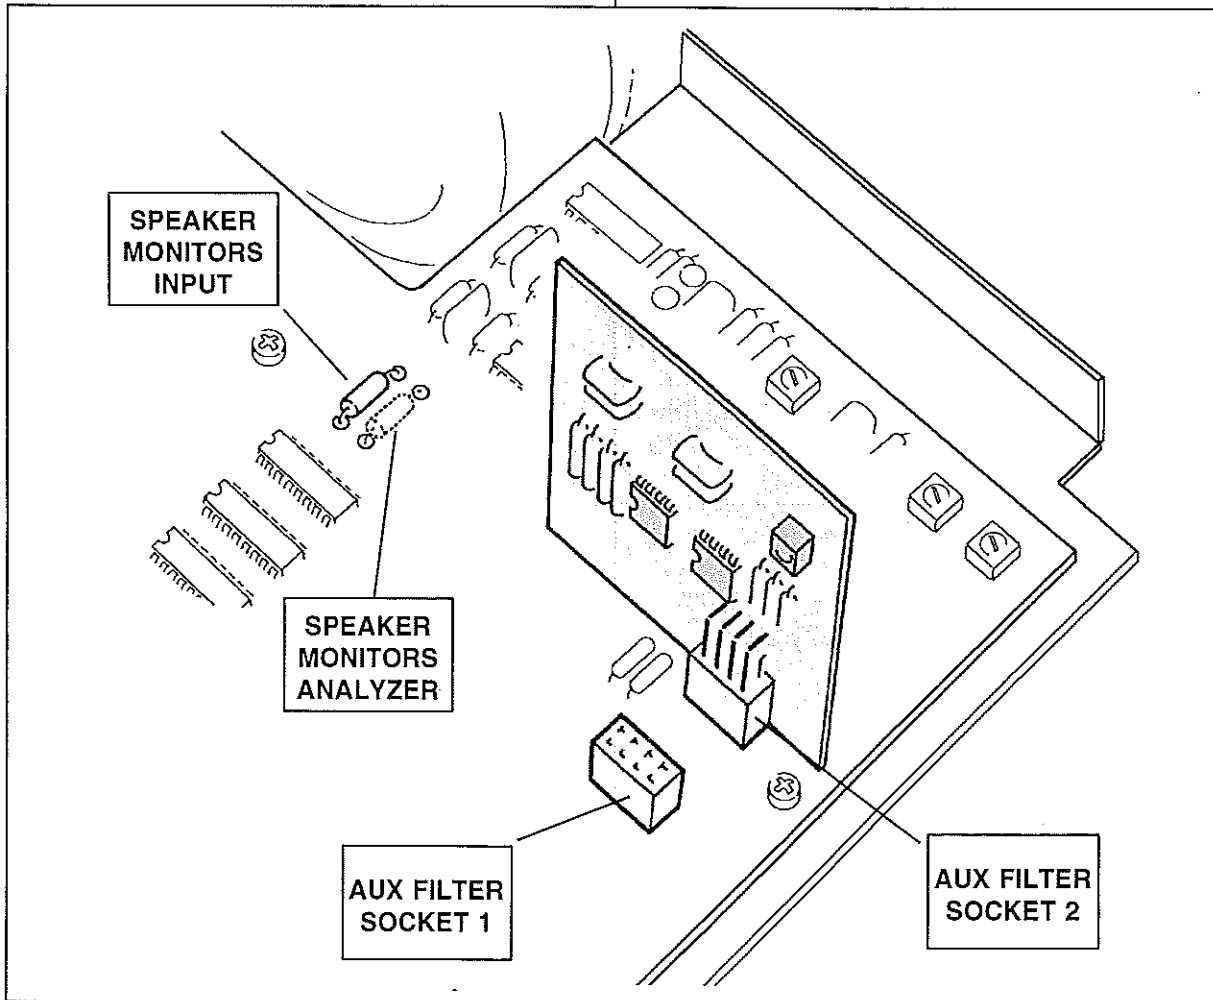

Figure 6-2 Auxiliary Filter Socket Locations and Monitor Loudspeaker Jumper Locations
4. Remove the chassis and panel assembly from the top half of the case by lifting directly upwards. Turn the chassis assembly over so that it is right side up. The two sockets for option filters are located near the right rear of the main analyzer circuit board (see Figure 6-2). They are clearly labeled FILTER1 and FILTER2 on the circuit board. Plug the filter(s) into whichever socket is desired.
Figure 6-2 from its factory-installed position and re-install it in the alternate location as shown in the drawing.